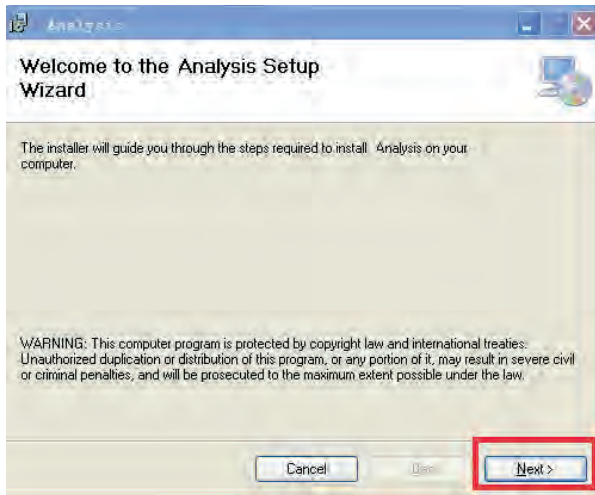

Figure 2-8
4. Go to the main program installation interface successfully. See figures 2-8 to 2-11: